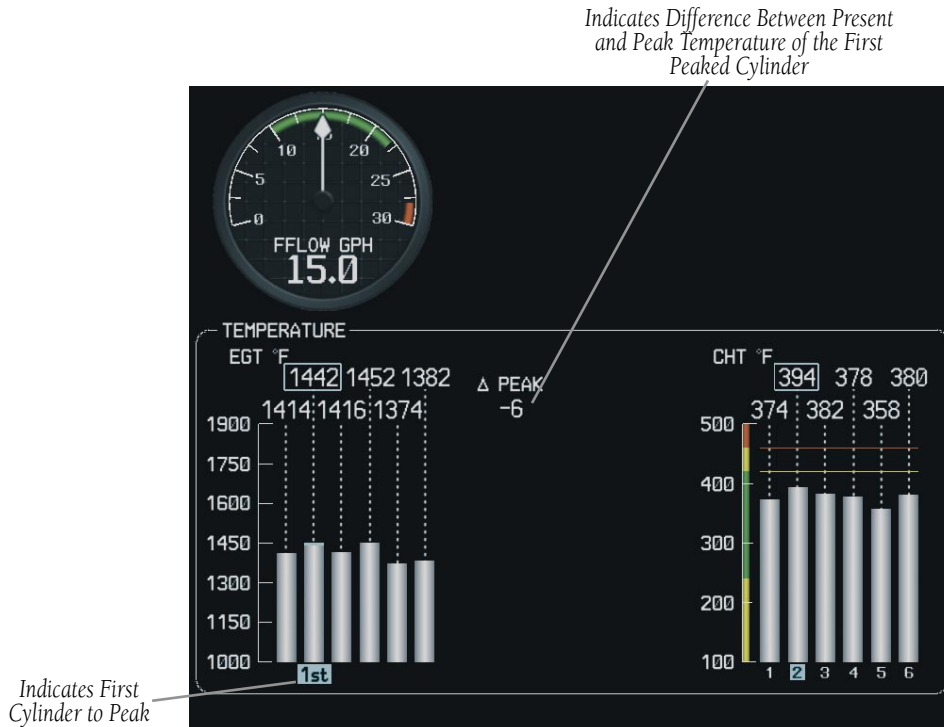

Figure 3-3 Engine Leaning Assist Display - First Peaked Cylinder (Columbia 350)
- 3) Lean the mixture until one of the cylinder's exhaust temperature peaks. This is indicated by '1st' being displayed below the first cylinder to peak. A bar is also displayed at that point on that cylinder's bar graph. See Figure 3-3.
- 3) Lean the mixture until one of the cylinder's exhaust temperature peaks. This is indicated by '1st' being displayed below the first cylinder to peak. See Figure 3-3.